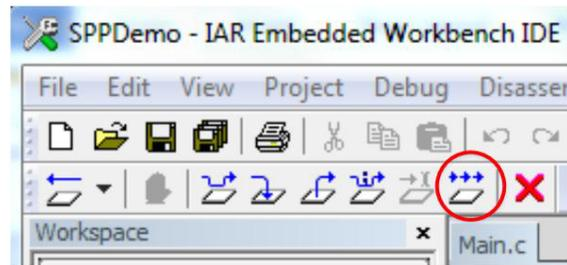

Figure 13. The Go Button
1. Press the Go button in IAR (see Figure 13).